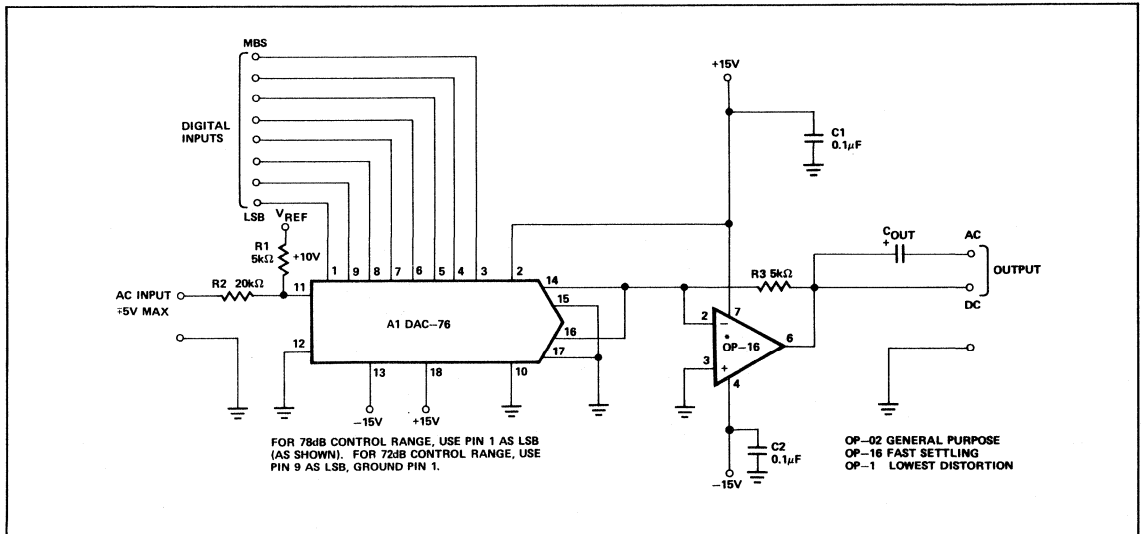

Figure 5. Basic Exponential Control Characteristic Two Quadrant Multiplier
Figure 5 shows a DAC-76 gain control circuit to illustrate the basic operation. In this circuit reference modulation method (a) is used, and the input is scaled for a $\pm 5\text{V}$ max level by R_2 . Reference current is $270\mu\text{A}$, as determined by R_1 and the reference voltage. Full scale (DC) output current for the circuit is 1mA ; thus R_3 is chosen to bias A_2 's output to $+5\text{V}$.
An inherent disadvantage of the circuit of Figure 5 is the fact that the desired AC output rides atop a DC level, which varies with code changes. Although the static DC can be blocked with a coupling capacitor such as C_o , large and/or rapid gain changes will produce annoying output transients, which can be as high as 1/2 full scale. Generally, such a behaviour is not tolerable in an active audio channel for quality use, so a means of suppression is described next: "Clickless" Attenuator/Amplifier (5).
With circuit values as shown in the figure, the maximum (all 1's) gain is unity (0dB) from either input to the output, while differential input to output gain is +6dB. Overall gain may be scaled by adjustment of R7, if necessary, yielding maximum gains either above or less than unity. Although a 78dB control range configuration is shown, the circuit may also be operated for a 72dB range, as shown in Figure 5. For best results the indicated pairs of resistors should be matched.